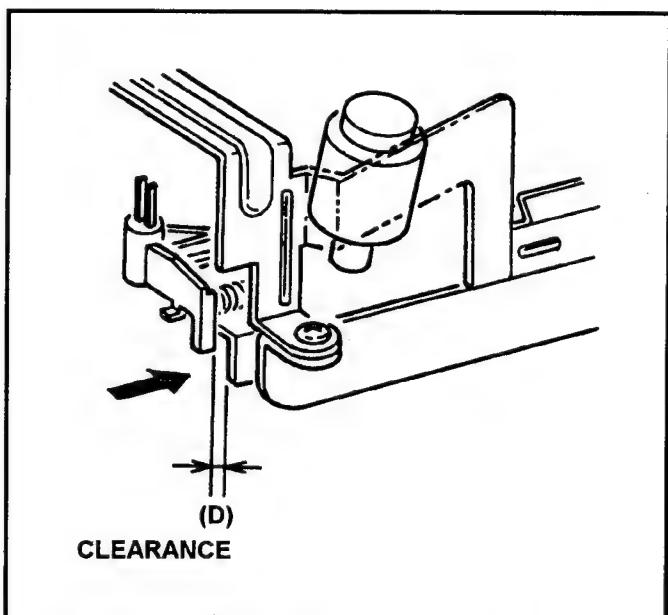

Fig. 4-15-3 Cleaner Solenoid Position Adjustment
2. Observe the clearance (D) between Cleaning Arm Unit and Cleaner Base Plate as shown in Figure 4-15-3. And make sure that it is within 0.5 to 0.7mm.